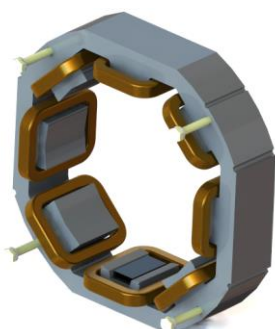

Figure 13.1: Exciter stator GTA
3. Remove the 4 fixing screws of the exciter stator, according to Figure 13.1.